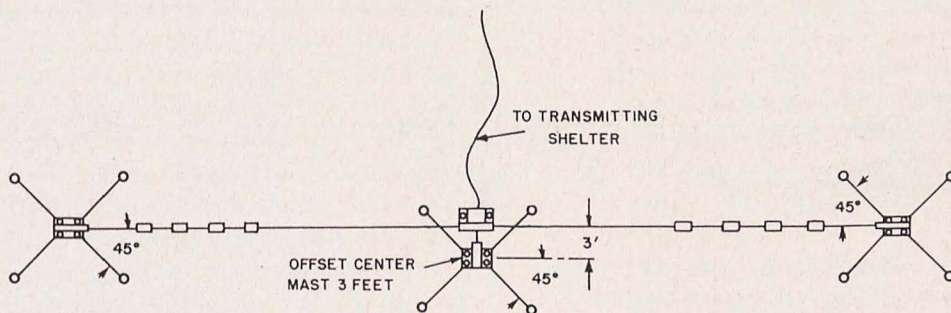

Figure 40. Top view of transmitting antenna.
*a. Half-wave Doublet.* Erect the three antenna masts as described in TM 11-2620A, which is packed with them. Erect the two end masts approximately 20 to 30 feet farther apart than the maximum antenna length desired. Erect the center mast midway between the two end masts, but offset it 3 feet from the line between the two end masts so that the center of the doublet antenna will clear the center mast (fig. 40). Orient the masthead caps so that the pulley on each end mast will be directed toward the center of the antenna, and the pulley on the offset center mast will be directed toward the transmitting shelter. Lead-in coaxial Cord CG-145A/MRC-1 is 100 feet long. The center mast should be located not more than 70 feet from the transmitting shelter. Be sure the antenna wires are connected and secured to the terminating block before hoisting the antenna, then hoist the antenna wires up the end masts and the coaxial terminating block up the center mast.